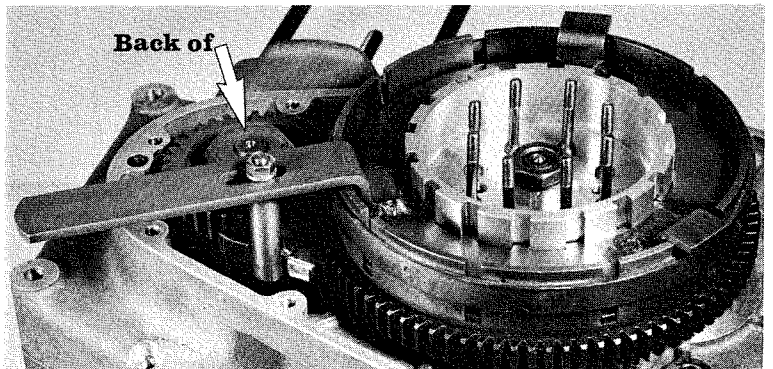

Fig. 5
5. Change the holding up tool and back off the drive gear nut. See Fig. 5.